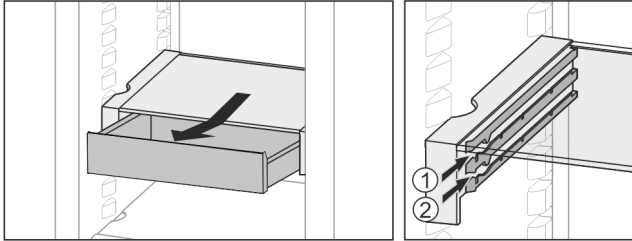

Fig. 34
- ▶ Slide back at the height you want Fig. 34 (1) or Fig. 34 (2).